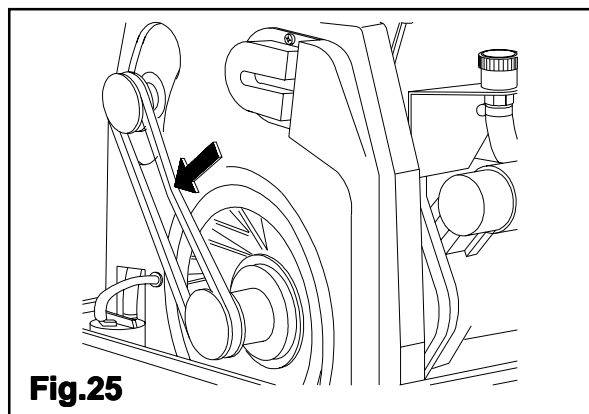

Fig.25
-Premere con circa 10Kg sulla cinghia, verificare che la flessione non superi 0,5cm (Fig.25).
-Press the belt with about 10Kg and be sure that bending is not superior to 0,5 cm (Fig.25).